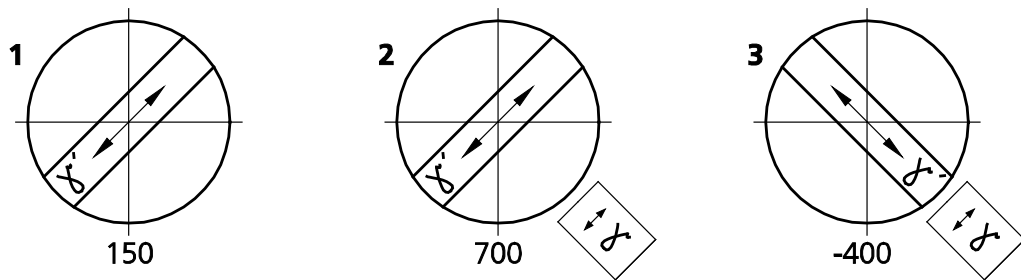
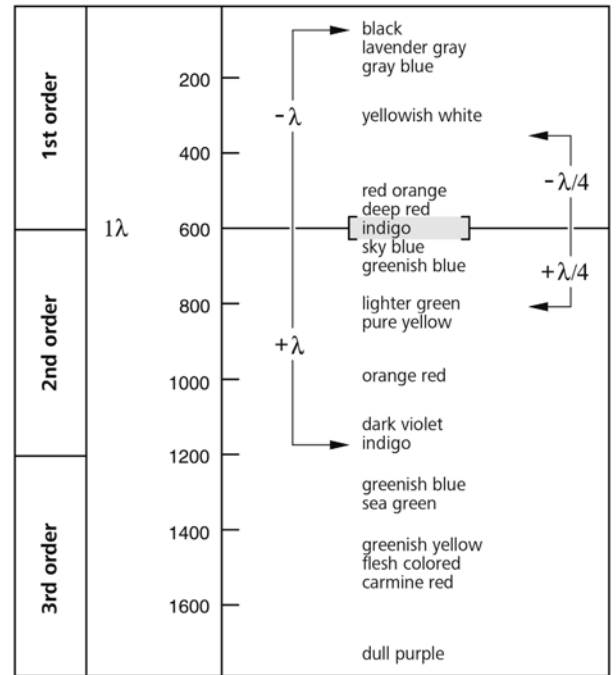

Fig. 4-8 Determining the polarization direction n_{γ} using a synthetic fiber as an example
Fig. 4-9 Schematic diagram of the color charts developed by Michel-Lévy
- Now rotate the stage by 45° so that the longitudinal axis of the fiber is oriented NE-SW (Fig. 4-9). The sample will display the greatest brightness here (diagonal position). In this position the sample may have any color.
The largest path difference occurs when the polarization direction of the sample with the absolutely or relatively highest refractive index (n_γ or $n_{\gamma'}$) is parallel to the principal polarization direction of the lambda compensator. The sample will then appear greenish-blue, for example (Fig. 4-8/2).
The smallest path difference occurs when the polarization direction of the sample with the absolutely or relatively lowest refractive index (n_α or $n_{\alpha'}$) is perpendicular to the polarization direction of the lambda compensator. The sample will then appear yellow, for example (Fig. 4-8/3).
The gray-white color appearing first in the bright position in the above example (Fig. 4-8/1) corresponds to a path difference of 150 nm according to the Michel-Lévy color chart (Fig. 4-9).